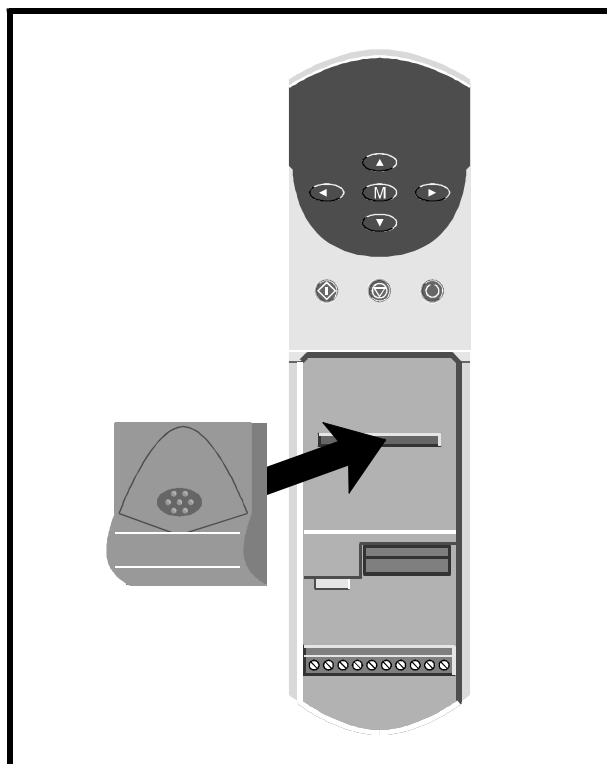

Figure 1 **Installing the UD51 in the Unidrive**
- 4 Position the multi-way connector on the rear of the UD51 over the connector in the Drive (see Figure 1), and press on the thumb pad to push the UD51 into place.